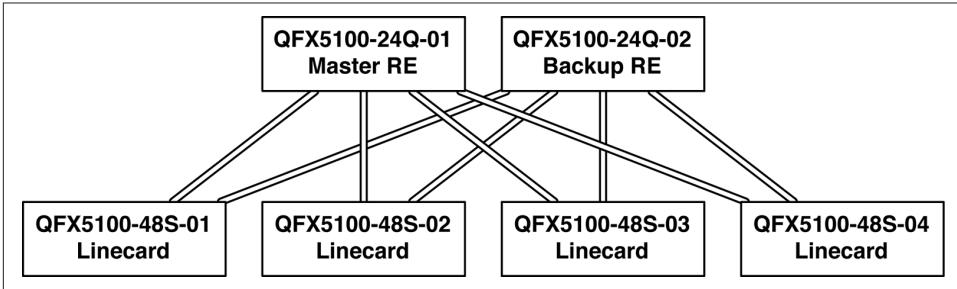

Figure 5-9. Adding the final spine switch, QFX5100-24Q-02
**Install the last spine.** The last step is to add the second QFX5100-24Q-02 spine into the VCF. Repeat the same steps and reset the switch using the `zeroize` command on the second QFX5100-24Q-02, and then after the switch reboots, connect the remaining cables into a full mesh, as depicted in Figure 5-9.